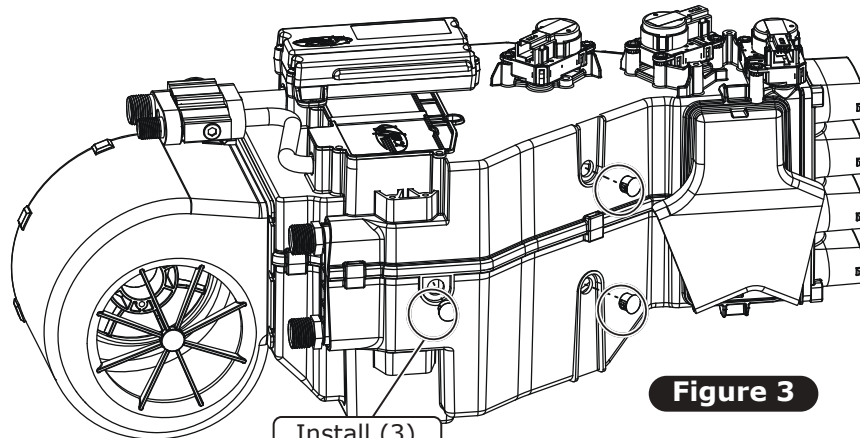

Figure 3
2. Install (3) plastic plugs as shown in Figure 3, below.